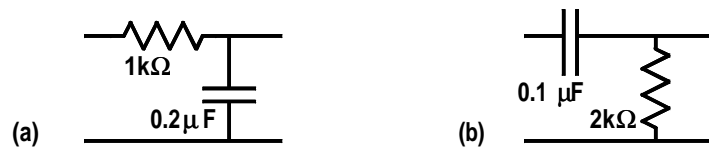

Figure 16.6: Problem 16.2.
- 16.2 Calculate the attenuation at frequencies of 100, 1000, 10,000, 100,000 Hz for the circuits shown in Figure 16.6 and verify that the attenuation on the falling part of the response curves changes by 20 dB for each factor of 10 in frequency.